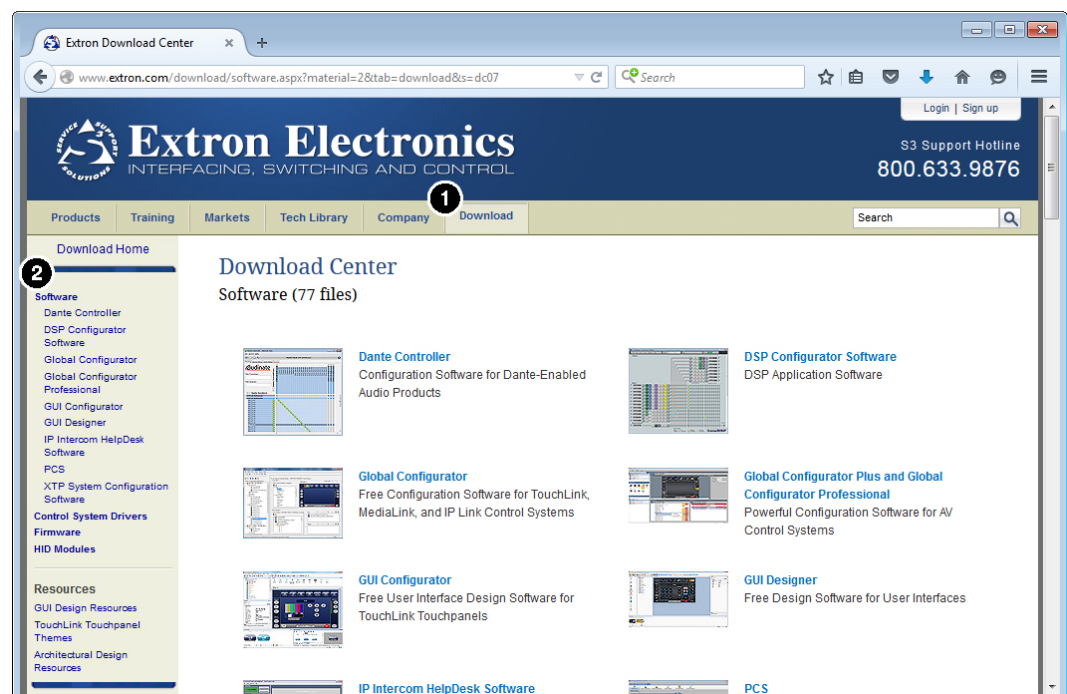

Figure 33. Download Center Page on the Extron Website
1. On the Extron website, select the **Download** tab (see figure 33, **1** on the previous page).